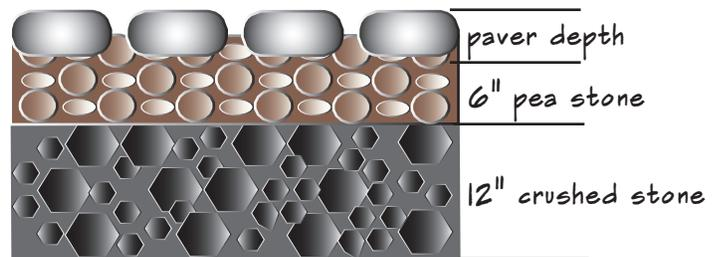

Figure 1. Pervious walkway profile.
- c. Sub-base material (figure 1) is the gravel and pea stone layers that go under the pavers. This material provides a reservoir for stormwater before it soaks into the ground underneath. You should have a minimum depth of 12" of 1 $\frac{1}{2}$ " diameter crushed stone and 6" of 3/8" peastone for your sub-base. Use the following equations to determine the amount of sub-base materials you will need: